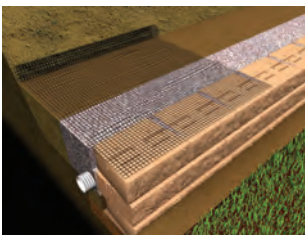

Figure 2
2. Lay VERSA-Grid on top of the compacted backfill and VERSA-LOK units by unrolling it perpendicular to the wall. Keep the grid 1 inch behind the front face of the wall so that it completely covers the holes and slots in the VERSA-LOK units (Figure 2) Cut to specified length using a scissors or knife.